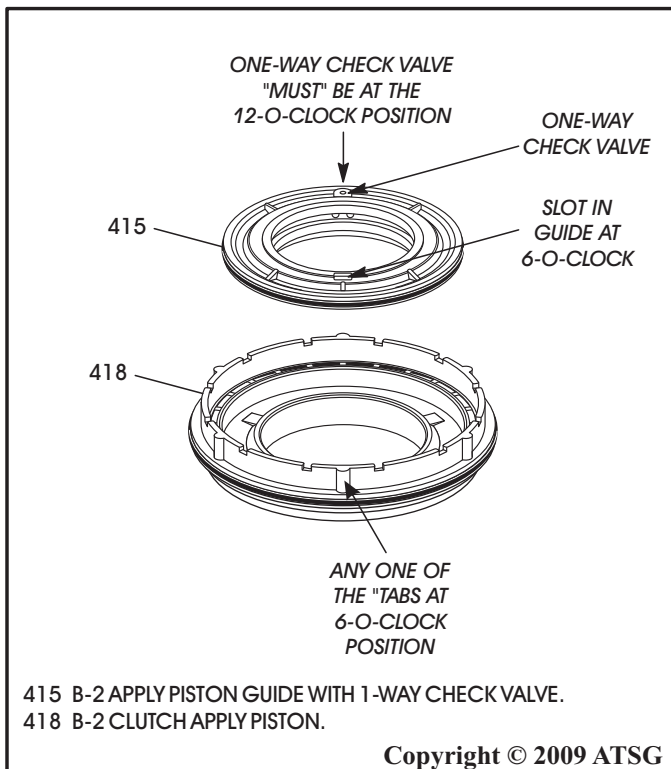

Figure 157
12. Place the B-2 apply piston on flat work surface with one of the "tabs" at **exactly** the 6-O'clock position, as shown in Figure 157.
13. Install B-2 apply piston guide with the 1-way check valve into the B-2 apply piston with the 1-way check **exactly** at the 12-O'clock position as shown in Figure 157.
15. The return spring retainer also has a square tab on bottom of the retainer at 6-O'clock position that must align with a slot in B-2 apply piston guide at the 6-O'clock position. Refer to Figure 157 and 158.